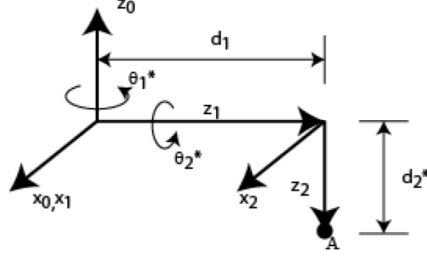

Figure 1: 3-link serial manipulator
Given the DH diagram for the three joint manipulator in Fig.1. Note that  $d_1$  is fixed but  $d_2$  is variable.
1. Specify the set of points reachable by the endpoint of the manipulator (point A in the Fig.1) when both rotary joints can rotate unconstrained and the prismatic joint must satisfy  $0 \leq d_2 \leq d_{2max}$ .